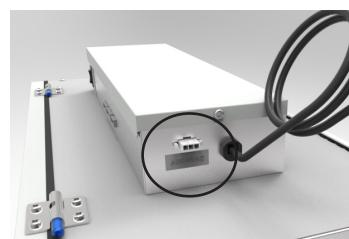

Figure 1
**If the HRV/ERV is installed so that the homeowner can turn off the HRV/ERV, we recommend installing a motorized damper between the HRV/ERV's supply air duct and the forced air system's return air duct that will close when the HRV/ERV is not operating. To install a damper accessory to the product, locate the auxiliary connector on the side of the electrical box. See Figure 1. Using the included wire harness, connect the damper accessory to the product.**